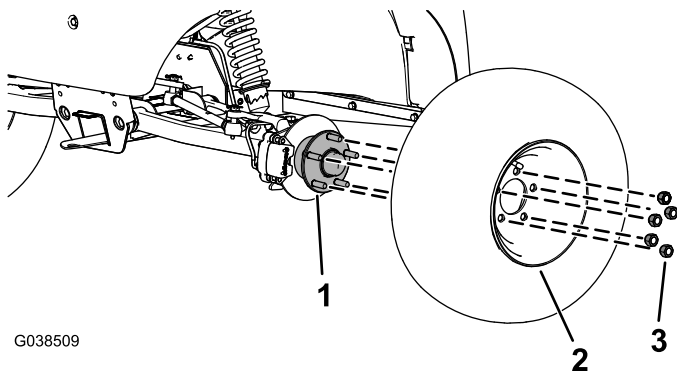

Figure 2
2. Remove the lug nuts that secure the wheel to the hub (Figure 2).